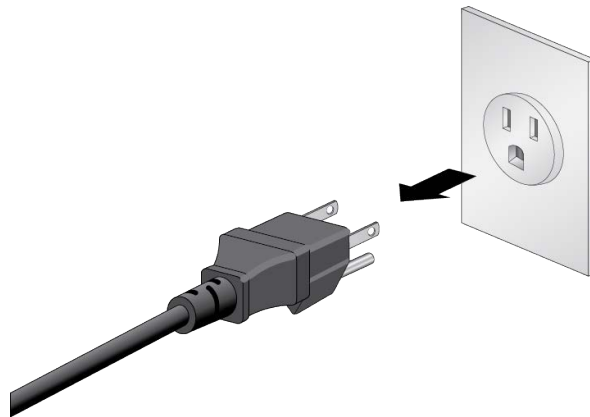

Figure 70. Disconnecting the Power Cord from the AC Power Source
1. Disconnect the power cord from the AC power source. Refer to Figure 70.